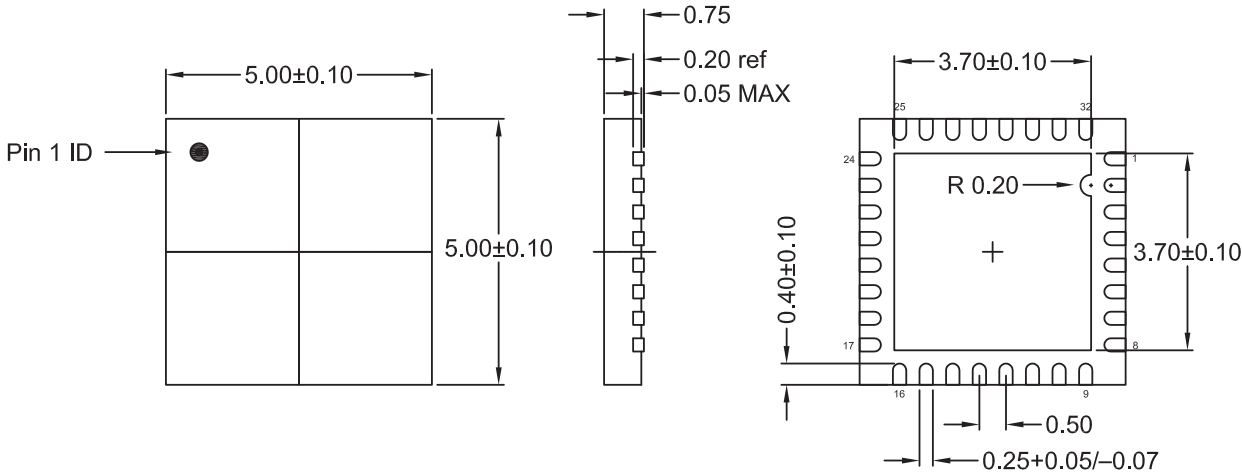

Figure 99. 32-Pin QFN Package Dimension
► **Note:** In Figure 99, dimensions shown are in millimeters.